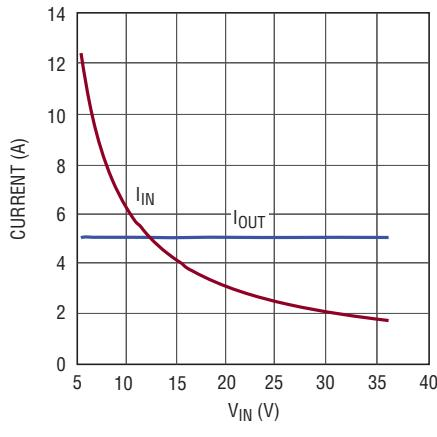

Figure 2. Input Current at Full Load (12V at 5A Out)
- Set the current limit of the input supply high enough so that the bench supply does not go into current limit mode. Figure 2 shows input current as a function of input voltage, at full load. Input current can reach 13A at 5V input voltage.